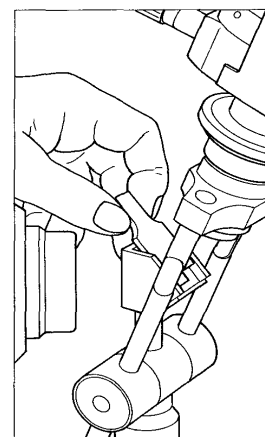

Fig. 37: Mirror replacement
- 2) Pull upward and pull out the mirror holding the narrow edge of the mirror. (Fig. 37).